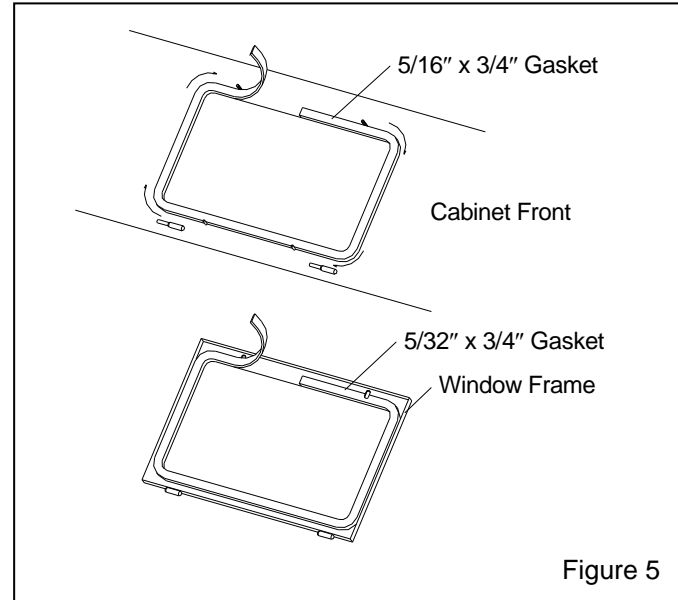

Figure 5
7.4 Window Gasket Replacement, Figure 5
7.4.4 Peel a short section of adhesive backing from the 5/16" thick strip gasket, and adhere the gasket to the center of the top edge of the window opening as shown in Figure 5. Peel additional backing as needed, and work the strip around the radius of each corner, pressing it tightly to bond. Trim the gasket to fit and compress the ends to seal.